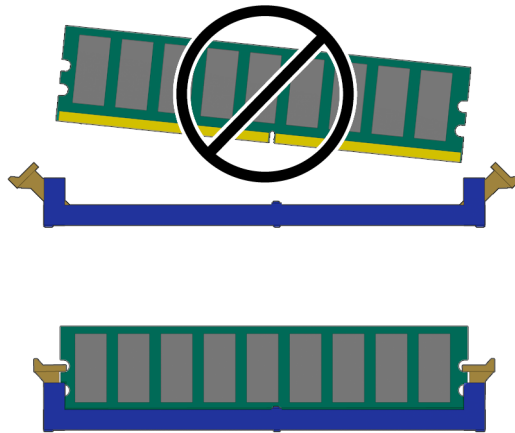

FIGURE 4-12 Aligning the DIMM With the Slot
4. Locate where the DIMM is to install and align it with the slot (FIGURE 4-12).